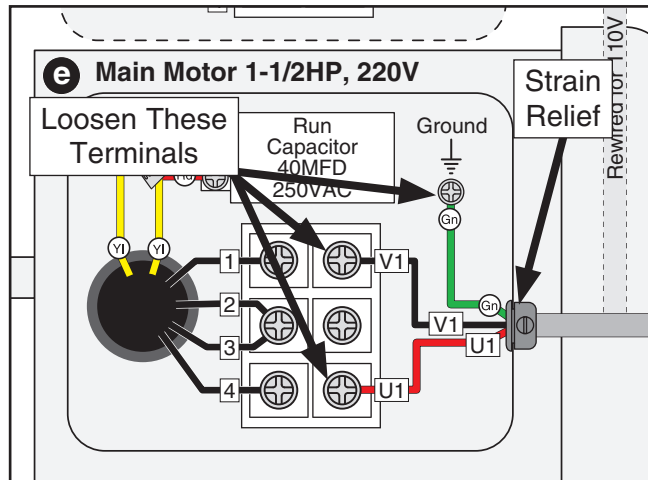

Figure 14. Wiring motor.
11. Open the motor junction box, loosen the terminal screws indicated in **Figure 14**, feed the cord through the strain relief on the junction box, then connect the wires as shown.